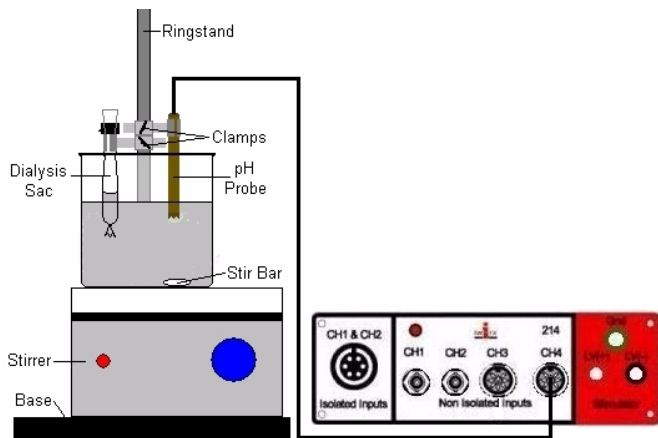

Figure GB-2-1: The arrangement of the stirrer, electrode, and beaker for measuring the changes in the pH in model of a membrane.
Plug the DIN connector on the end of the cable of the ISE-100 pH electrode into Channel 4 on the iWorx unit (Figure GB-2-1 on page 2).
- 4 Place the beaker containing the pH 7 buffer on the magnetic stirrer (Figure GB-2-1 on page 2). Carefully place a stir bar in the beaker. Remove the pH electrode from the deionized water and blot any drops of water from the electrode. Position the tip of the electrode in the beaker of pH 7 buffer so that the tip is away from the stir bar. Adjust the speed of the stirrer so the stir bar is rotating evenly at a moderate speed.